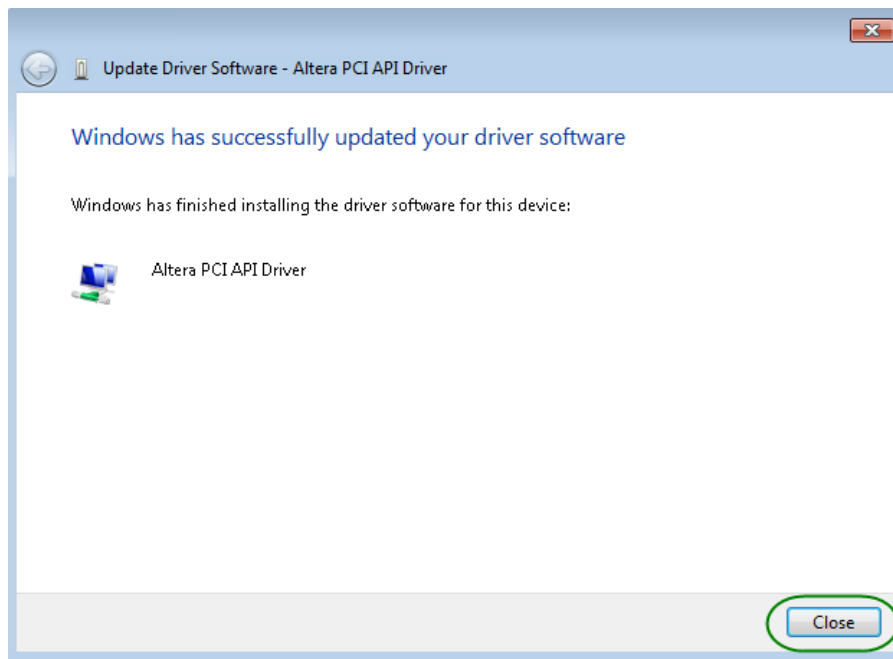

Figure 5-8 Click Close when the installation of Altera PCI API Driver is complete
12. When the driver is installed successfully, the successfully dialog will appear, as shown in **Figure 5-8**. Click the Close button.